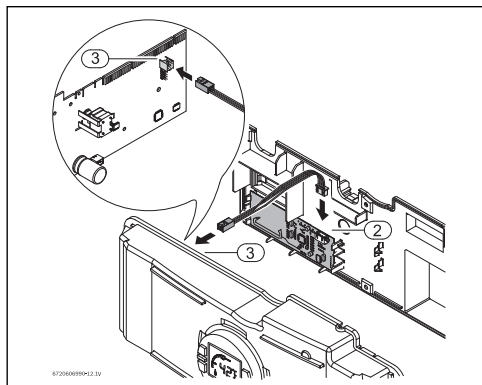

Fig. 10
- ▶ Connect the supplied cable between the main PCB and the remote control PCB as shown in Fig. 10.
- If an error code is generated immediately after the installation of the remote control transceiver PCB, ensure that the electrical connectors (Fig. 10) on the main PCB are properly seated.